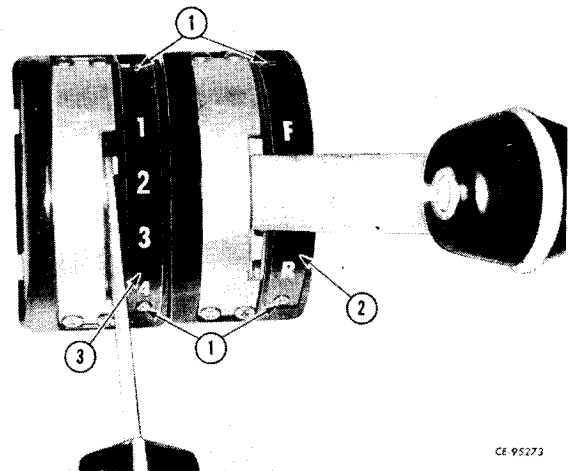
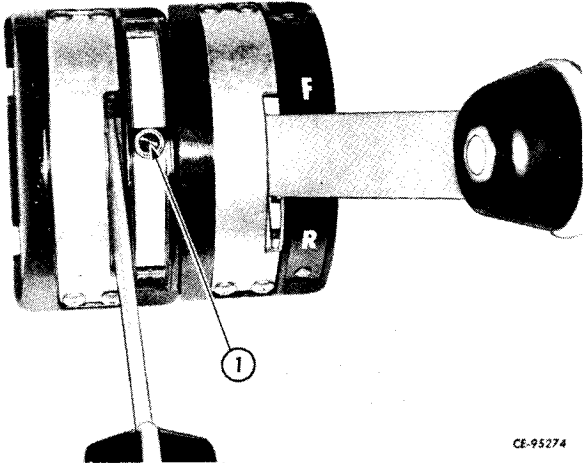

Figure 9-3
Figure 9-4
To service the lights in the control lever brackets (2, 3, Fig. 9-3), remove cap screws (1) separating positioning strips (2, 3) from bracket housings.
Replace bulb (1, Fig. 9-4) from lever brackets. Install positioning strips (2, 3, Fig. 9-3) and install and tighten cap screws (1, Fig. 9-3).